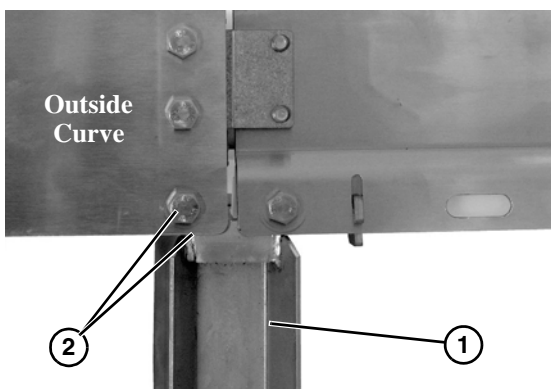

Figure 7
3. When attaching stand (**Figure 7, item 1**) to curved section on outside curve, make sure mounting hole on stand is to the inside of curve section and head of bolt is on the outside of curve section (**Figure 7, item 2**).